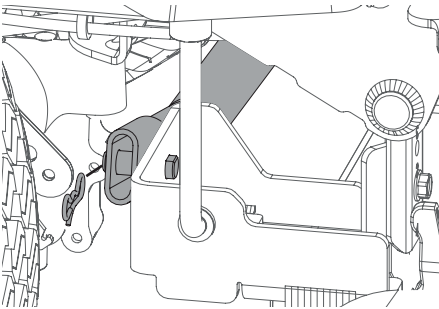

Figure 44
- Remove the bow-tie cotter pin on the right side of the bar, connecting the bar with the bracket on the deck (Figure 44).